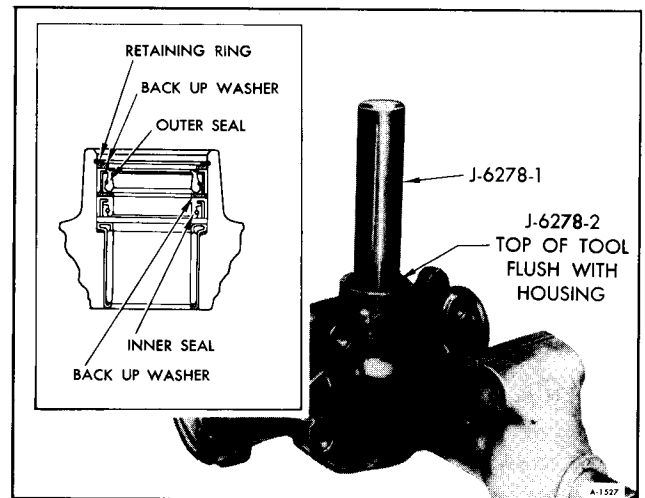

Figure 47—Installing Pitman Shaft Seals
b. Drive the seals into the housing until the top of Adapter J-6278-2 is flush with the housing (figure 47).
d. Reinsert Tool J-6278 with Adapter J-6278-2 and continue driving the seals until the retaining ring seats in its groove (Refer to inset , figure 47), then remove the tool and adapter.